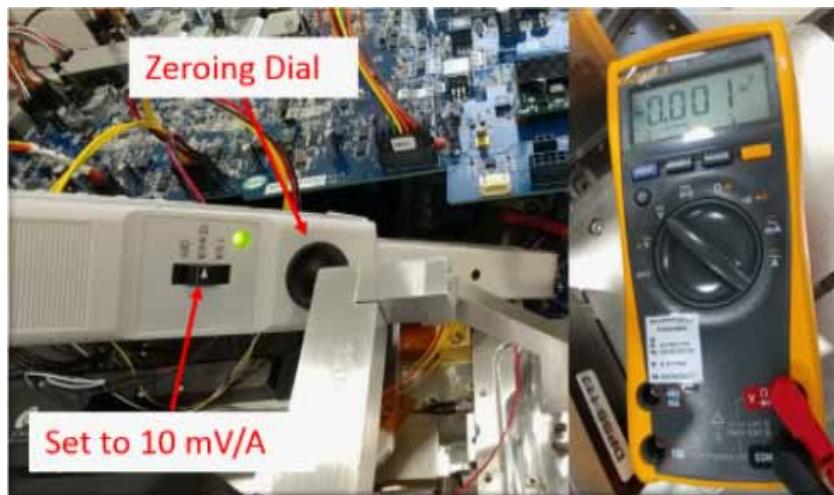
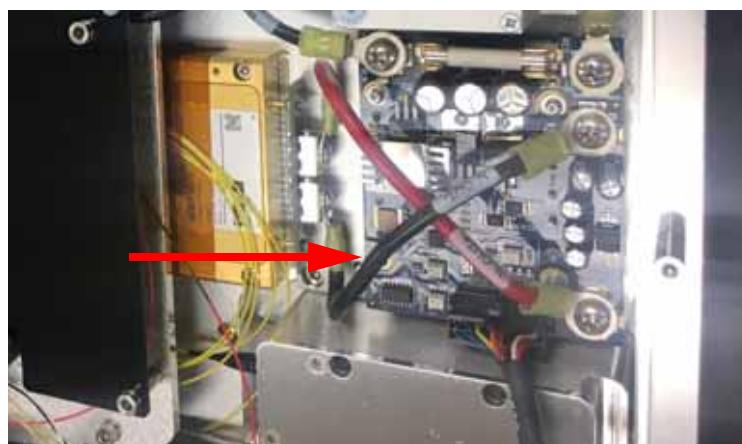

Figure 4.4-10. Diode Current Calibration
Figure 4.4-11. D3 Current Cable (black)
26. Use the current clamp on the black D3 diode current supply cable to monitor the actual current against the read current (positive indicator on the current clamp goes towards the diode). Use the zeroing dial if needed. See Figure 4.4-10 and Figure 4.4-11 below.